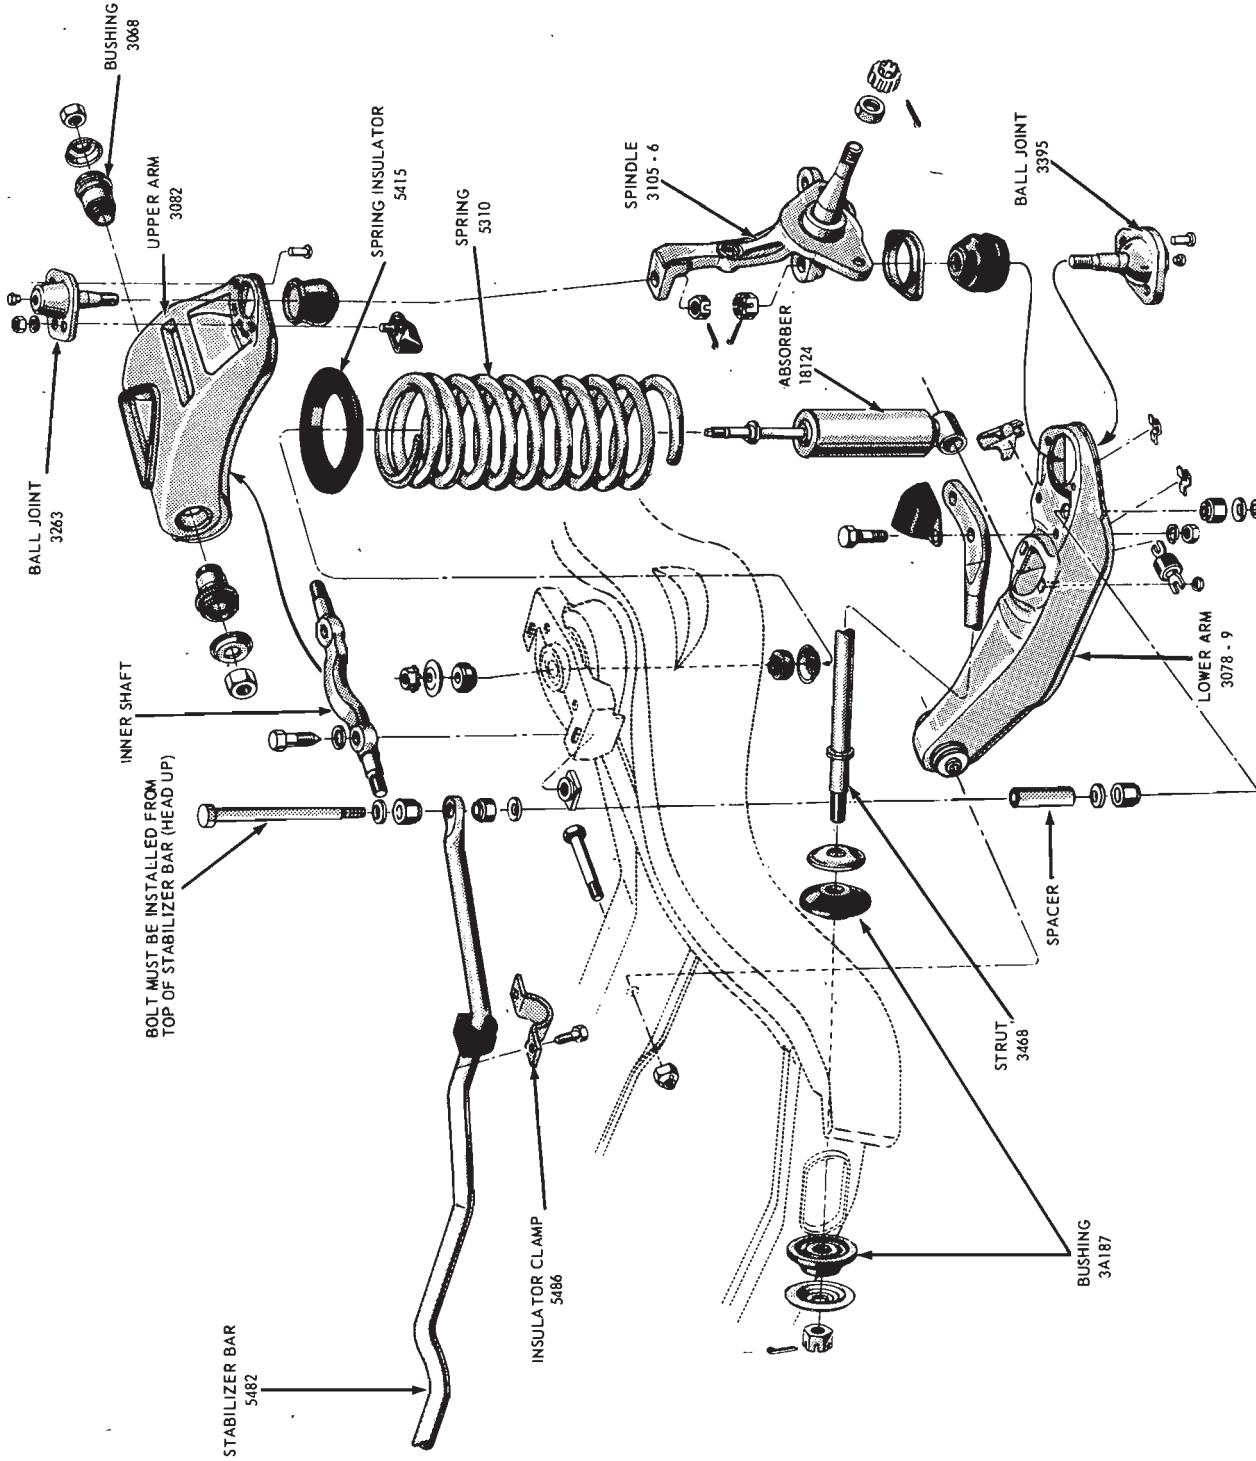

FIG. 1—Front Suspension Disassembled—Typical—Ford, Mercury, Thunderbird, Continental Mark III, Lincoln
and shaft assembly which is bolted to the frame. The lower arm pivots on a bolt in the Number 2 crossmember (Figs. 1 and 2). A coil spring seats between the lower (upper on Cougar,
3. Remove the bolt and the remaining washers(3) insulators (3) and the spacer.
6. Install the spacer, flat washer and another new insulator on the bolt (Fig. 1).